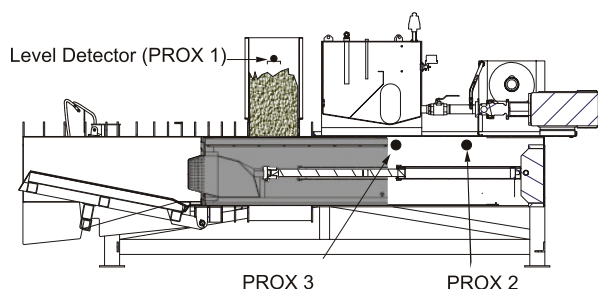

Figure 25 - Product Piling On Top Of Plunger. Plunger In Home Position (fully extended).
1. **START-UP SYSTEM CNTRL** switch in START extends the plunger. AUTO PLUG switch in AUTO raises the restriction rail. Product falling through the in-feed chute falls onto the plunger top surface (see Figure 25).
NOTE: Any time the system is stopped with the **EMERG STOP** or the **SYSTEM CNTRL Switch**, when re-started the plunger will return to home position (see Figure 25 - Pg. 21).